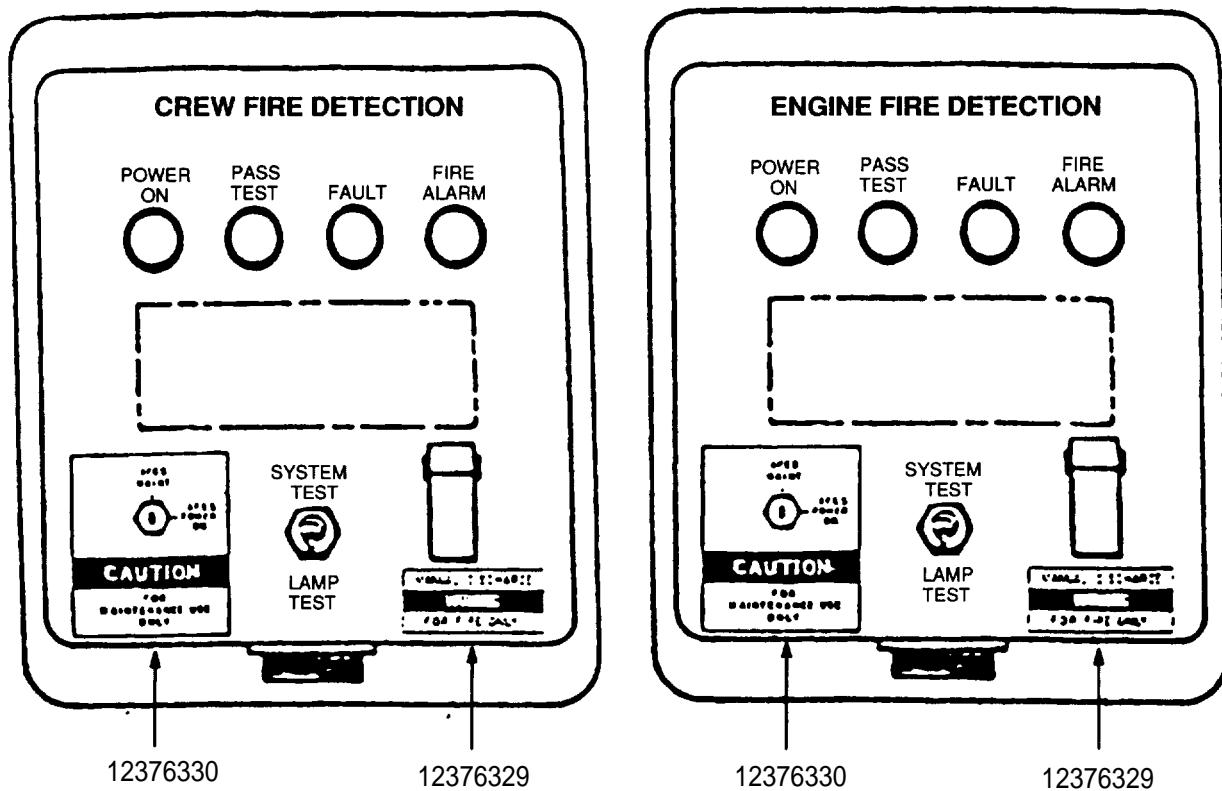

Figure 1
3. Remove the protective backing from labels 12376329* and 12376330*, and position them on the Engine and Crew Test and Alarm Panels as shown in Figure 1.